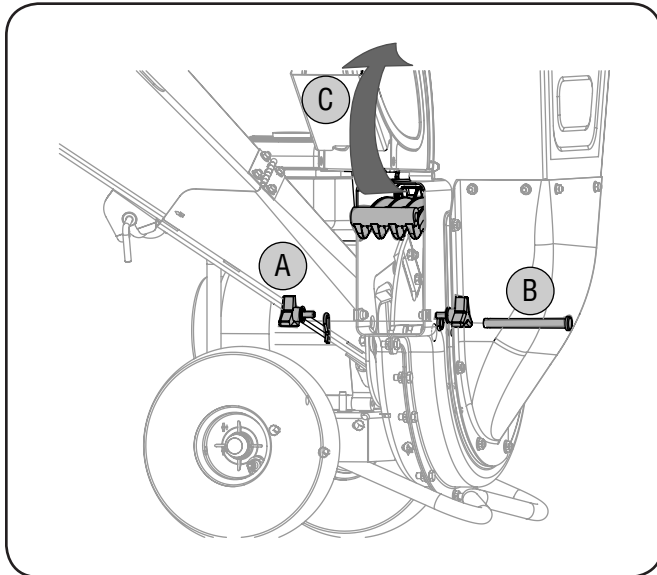

Figure 6-1
2. If attached, remove debris bag. Remove the two wing knobs on either side of the chute deflector and pivot the chute deflector upward. See Figure 6-1.